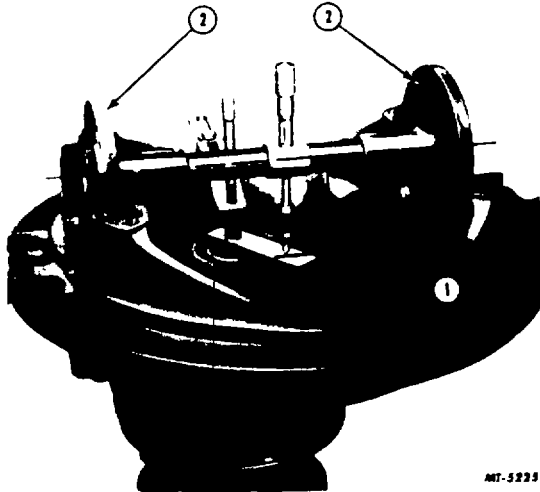

Fig. 15. Assembled Gauge in Position
17. Mount assembled SE-1065 gauge in bearing bores of carrier (Fig. 15). See "SPECIFICATIONS" for correct disc size.